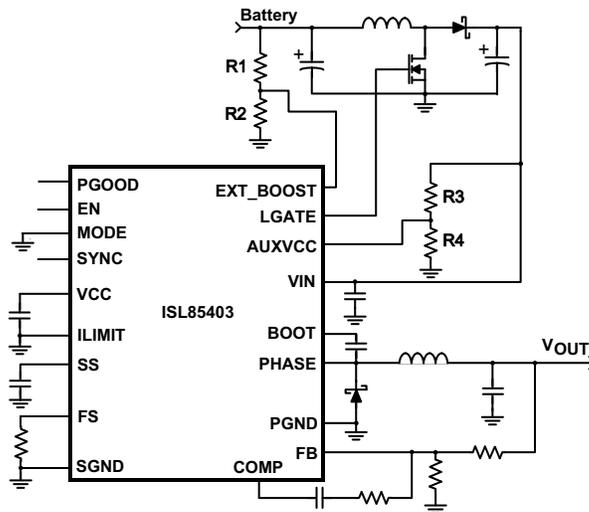
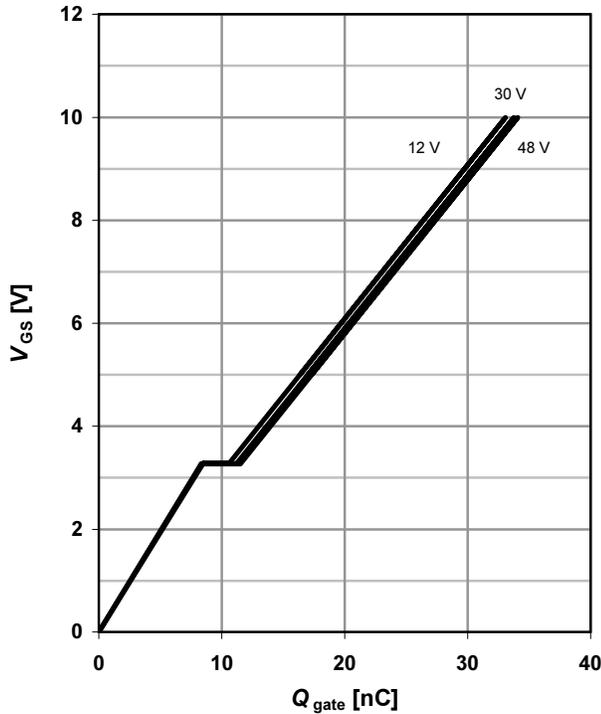

Figure 1. Typical Application Schematic - Two-Stage Boost Buck Converter [1]
Figure 2. BSZ100N06LS3 G Gate Charge Waveforms [2]
The ISL85403 is capable of regulating output voltages in which the input voltage to the circuit is either less than or greater than the output voltage. To achieve these voltages, configure the device in Boost-Buck mode as shown in Figure 1.
**Note:** The ISL85403 datasheet and evaluation board user guides use the term  $V_{BAT}$  or Battery as the input voltage to the boost-buck circuit and use the term  $V_{IN}$  as the input voltage to the buck converter where this  $V_{IN}$  voltage is generated by the boost stage (see Figure 1). Be aware of this terminology when reading the datasheet and user guides versus this guide.
Carefully choose the boost stage switching transistor. The boost stage switching transistor is the FET driven by the LGATE signal in Figure 1. Many FETs, including the BSZ100N06LS3 G used on the ISL85403EVAL1Z evaluation board, are not optimal for being driven with a 3V gate drive signal. The charge curve (Figure 2) for the BSZ100N06LS3 G device shows that the plateau of the charge curve is at a voltage greater than 3V.